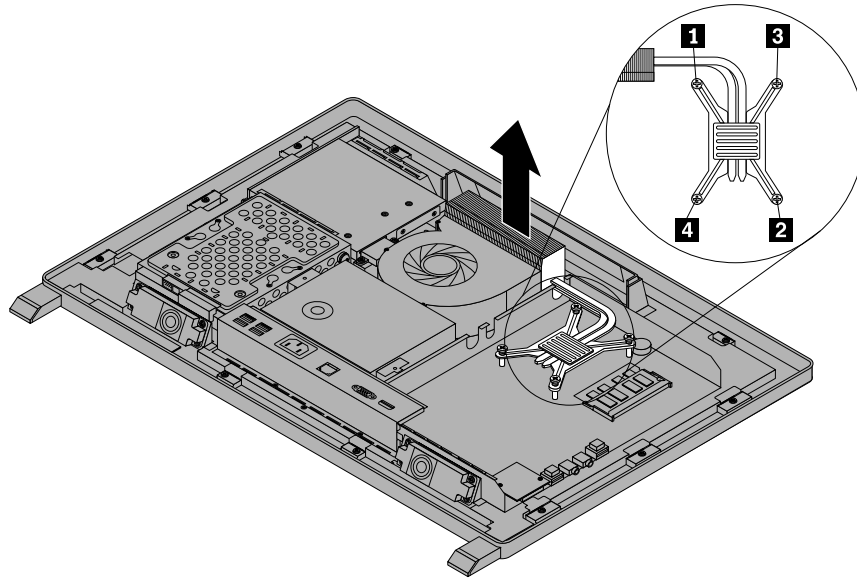

Figure 28. Loosing the four screws that secure the heat sink assembly to the system board
9. Follow the sequence **1**, **2**, **3**, **4** on the heat sink assembly to tighten the four screws to secure the heat sink assembly to the system board, as shown in Figure 28 “Loosing the four screws that secure the heat sink assembly to the system board” on page 108.